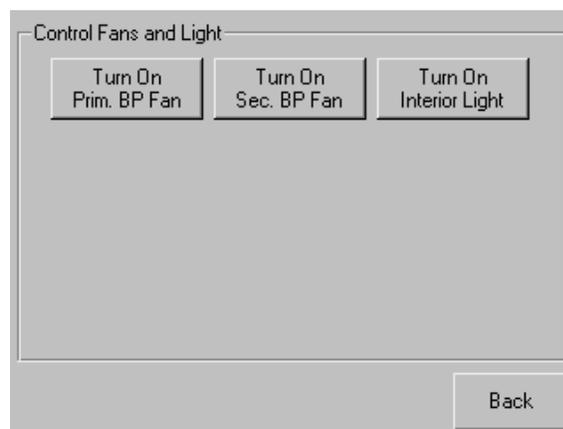

Figure 5-22: Control Fans and Light Screen (Maintenance)
Control Fans and Light Button. This option displays a menu screen (Figure 5-22) that provides buttons to turn ON and OFF the primary backplane (BP) fan, secondary BP fan, and interior light. When pressed, the button changes to show that the opposite action is now available for that feature.